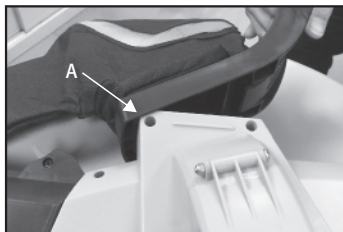

Fig. 3A
1. Insert the buckle (A) of support frame into the slot of the housing. Frame will click into position when properly fitted. (Fig. 3A)